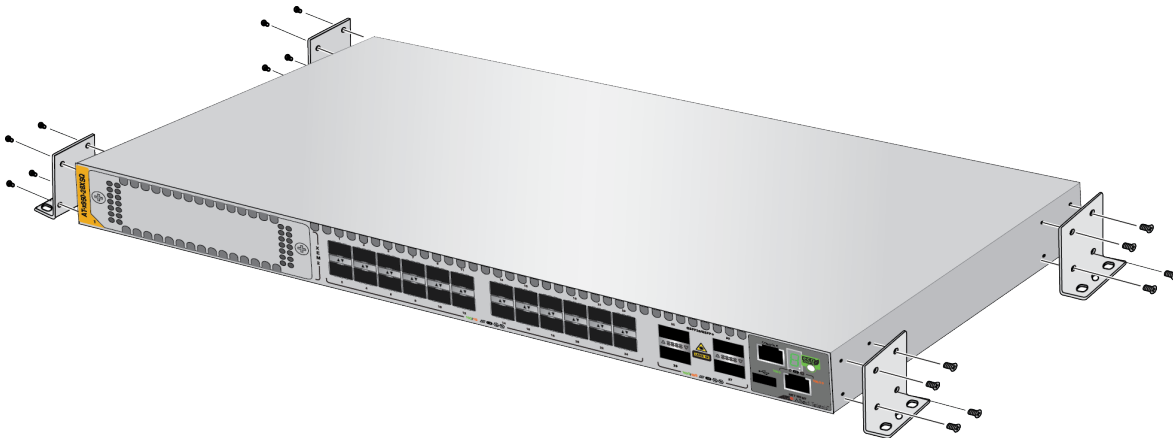

Figure 94. Installing the Brackets to the Switch for Wall Installation
2. Install the four brackets with the sixteen screws that come with the switch to the sides of the unit, as shown in Figure 94.
2. Install the four brackets with sixteen screws that come with the switch to the sides of the unit, as shown in Figure 94 on page 160.